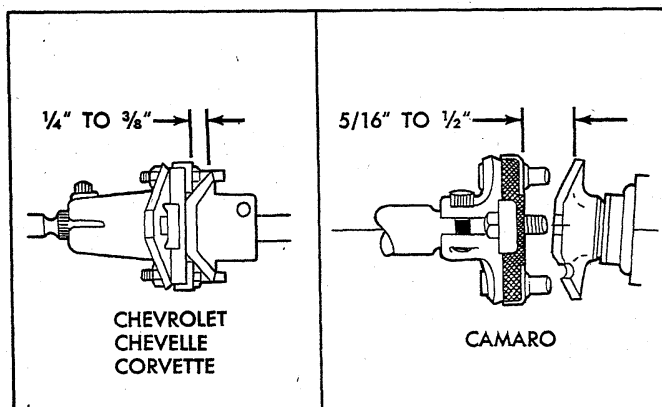

Fig. 16—Steering Coupling Clearance Adjustment
3. Secure steering coupling to flanged end of steering column with washers and nuts. Maintain coupling adjustment shown in Figure 16.
1. Place gear into position so that steering coupling mounts properly to flanged end of steering shaft. Secure gear to frame with washers and bolts. On Corvette models, install gear with bolts, washers, and nuts. Maintain coupling adjustment shown in Figure 16.